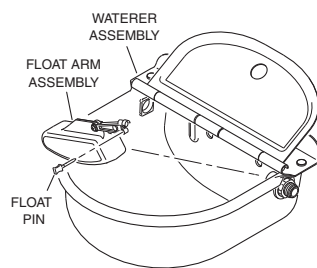

Figure 1
2. Remove the float pin and float/arm assembly from the waterer to gain access to the mounting holes (see Figure 1).
4. Drill a hole in each of the two (2) marked locations.